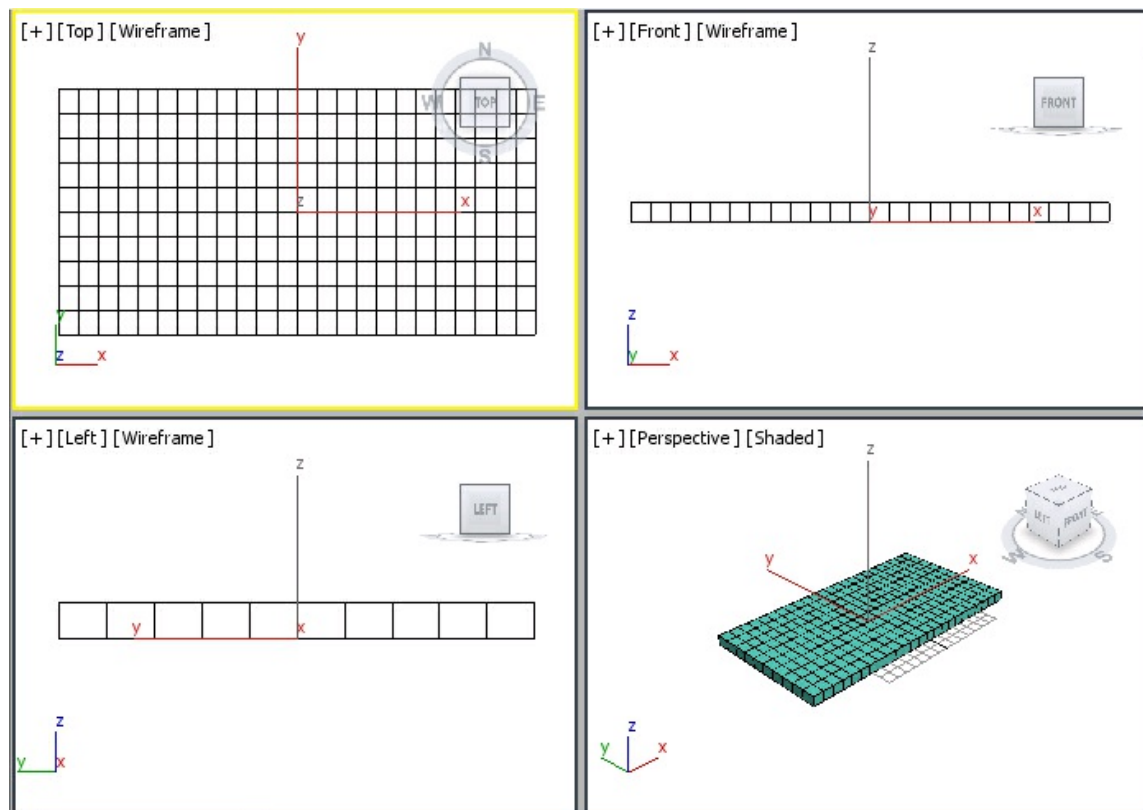

Figure 9-60 The computer table geometry displayed in the viewports
3. Rename *box001* as *computer table*. Next, choose the **Zoom Extents All** tool. The *computer table* is displayed in the viewports, as shown in Figure 9-60.